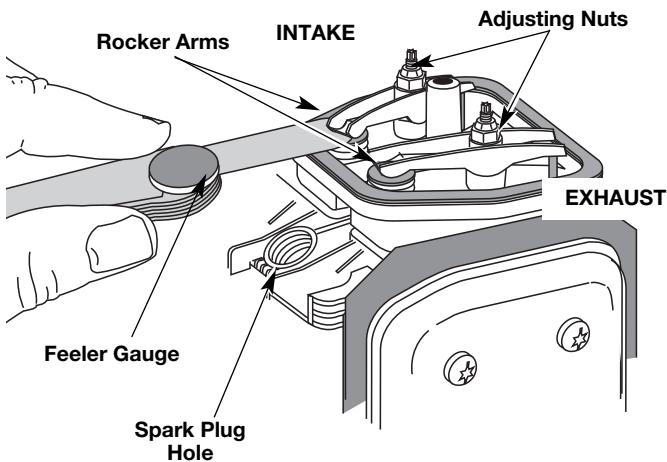

Fig. 54
- The piston is at the top of its travel while looking in the spark plug hole (Fig. 54)
7. Slide the feeler gauge between the rocker arm and the valve return spring. Measure the clearance between the valve stem and rocker arm (Fig. 54). Measure both the intake and exhaust valves.
The recommended clearance for both intake and exhaust is .003 – .006 in. (.076 – 0.152 mm). Use a standard automotive .005 in. (0.127 mm) feeler gauge. The feeler gauge should slide between the rocker arm and valve stem with a slight amount of resistance, without binding. See Figures 54 and 55.
- a. Turn the adjusting nut using a 5/16 inch (8 mm) wrench or nut driver (Fig. 54).